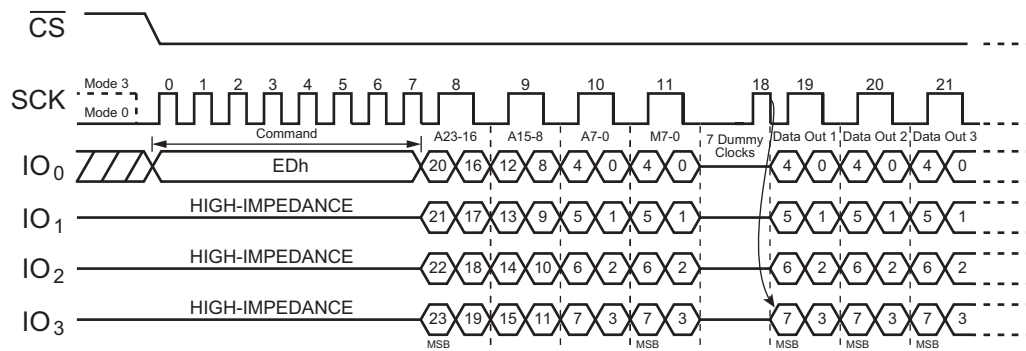
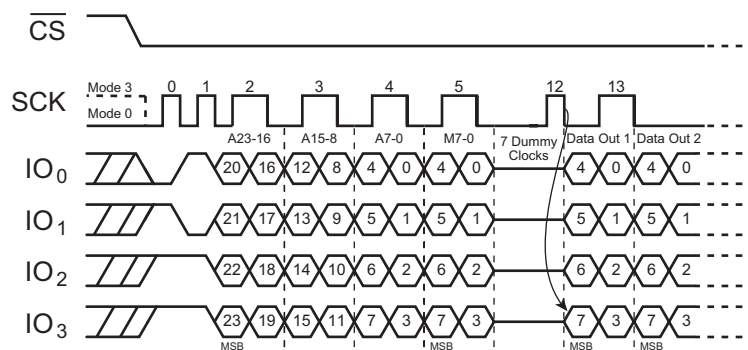
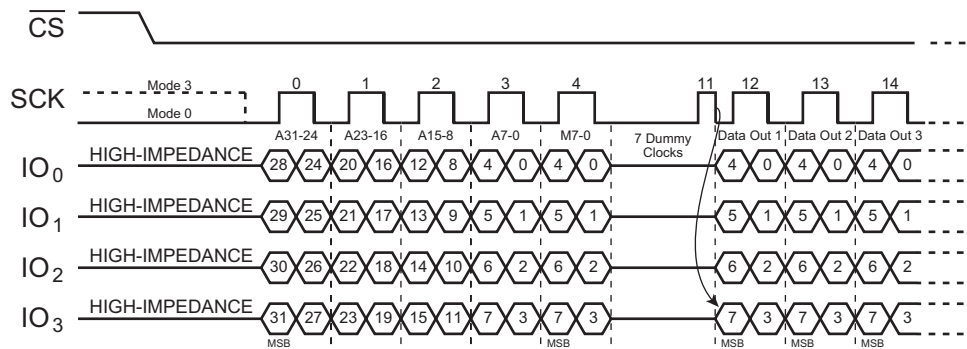

Figure 51. DTR Fast Read Quad I/O (SPI Mode, Three-Byte Address Mode; Initial command or previous (M5-4≠(1,0)))
Figure 55. DTR Fast Read Quad I/O (QPI Mode, Three-Byte Address Mode; Initial command or previous (M5-4≠(1,0)))
Figure 58. DTR Fast Read Quad I/O (QPI Mode, Four-Byte Address Mode; Initial command or previous (M5-4=(1,0)))
The DTR Fast Read Quad I/O (EDh) command is similar to the Fast Read Dual I/O (BBh) command, except that address and data bits are input and output through four pins: IO₀, IO₁, IO₂, and IO₃; also, four Dummy clocks are required in SPI mode before the data output, as shown in Figure 51 to Figure 58. The Quad Enable bit (QE) of Status Register must be set to enable.
The DTR Fast Read Quad I/O command is also supported in QPI mode, as shown in Figure 55 to Figure 58. In QPI mode, the Continuous Read Mode can further reduce command overhead by setting the Continuous Read Mode bits (M7-0) after the input Address bits (A23/31-0). See the description on previous pages. If the Continuous Read Mode bits (M5-4) = (1,0), the next Fast Read Quad I/O command (after CS is raised and then lowered) does not require the EDh opcode. If the Continuous Read Mode bits M5-4 do not equal (1,0), the next command requires the first EDh opcode, thus returning to normal operation. A Continuous Read Mode Reset command can also be used to reset (M5-4) before issuing normal command.